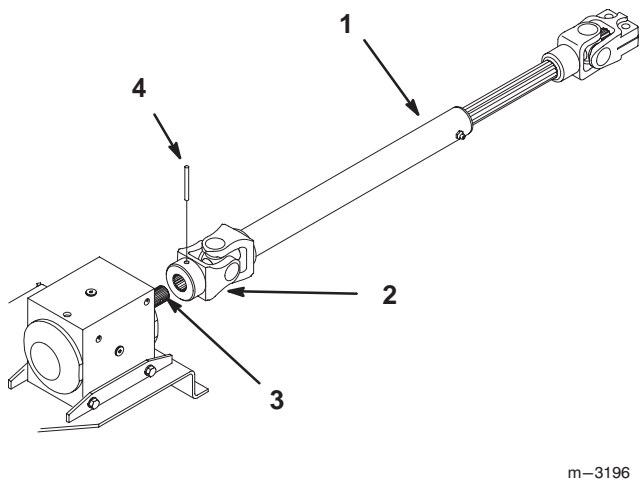

Figure 10
6. Rotate PTO drive shaft so holes in universal joint align with hole in gearbox shaft and slide together (Fig. 10).
7. Drive roll pin through hole in universal joint to secure PTO drive shaft to gearbox shaft (Fig. 10).
1. Drive roll pin through hole in universal joint to remove PTO drive shaft from gearbox shaft (Fig. 10).